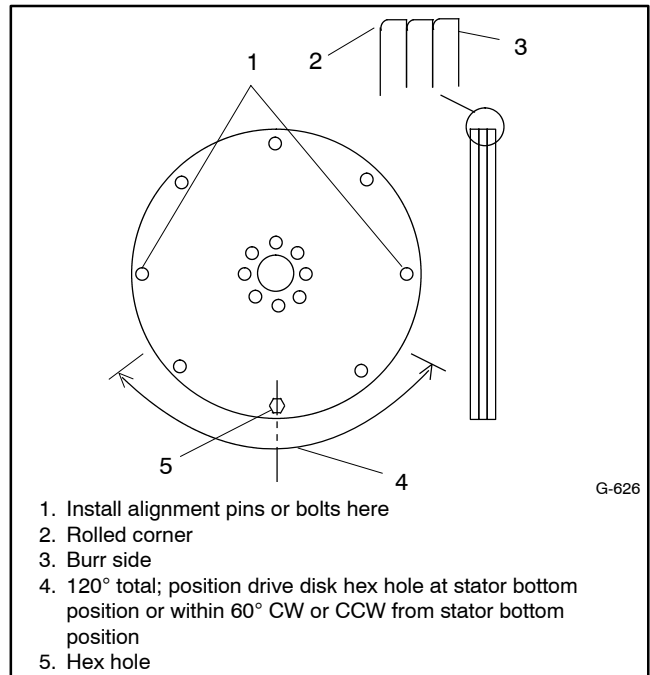

Figure 11-19 Aligning and Mounting Drive Disks
14. Align the individual drive disks with the hex holes together and with the hole burr sides facing the same direction. Temporarily place two alignment pins (not supplied) or bolts in the outer holes at opposite ends and 90° from the hex hole before installing the drive disk to the rotor shaft. The pins help maintain concentric alignment of the individual drive disks during installation. See Figure 11-19.